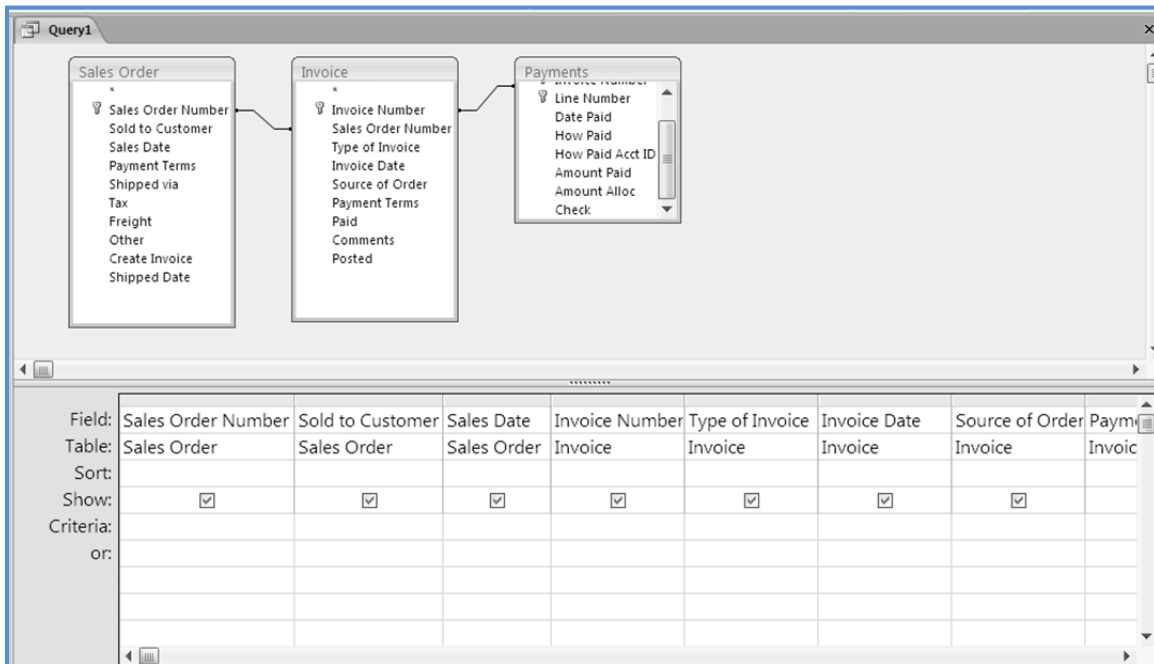

Fig. 1.3.5: Select required columns
4. Select the fields *Sales Order Number*, *Sold to Customer* and *Sales Date* from *Sales Order* table and drag them to the Columns tab. Similarly, select fields *Invoice Number*, *Type of Invoice*, *Invoice Date*, *Source of Order* and *Payment Terms* from *Invoice* table and columns *Date Paid*, *How Paid*, *Amount Paid* and *Amount Alloc* from *Payments* table. The query window appears as in Fig. 1.3.5.